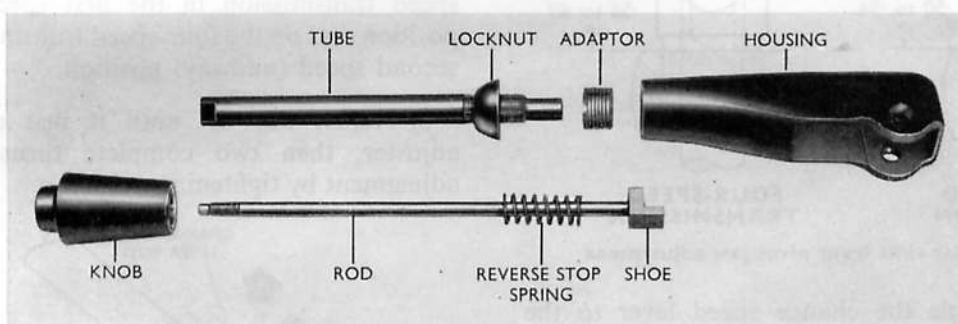

Fig. F.4. Exploded view of four-speed gear shift lever
fabricated (see Fig. F.4) having an adjustable tube, housing a rod to which is attached a stepped shoe at the inner end. The shoe engages the end of the selector rod to provide a reverse gear stop.
2. Assemble the reverse stop spring to the rod and insert the rod into the housing. Ensure that the shoe is the correct way round in the slot (Fig. F.4).